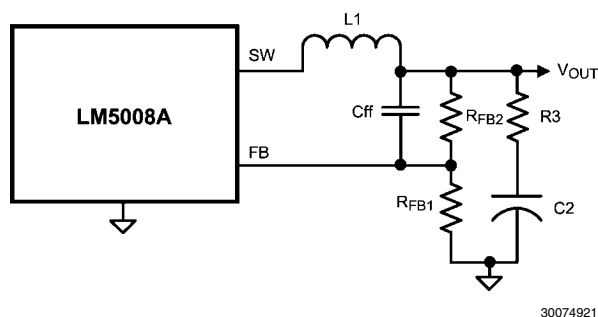

FIGURE 7. Reduced Ripple Configuration
a) Reduced ripple configuration: In Figure 7, C_{ff} is added across R_{FB2} to AC-couple the ripple at V_{OUT} directly to the FB pin. This allows the ripple at V_{OUT} to be reduced to a minimum of 25 mVp-p by reducing R_3 , since the ripple at V_{OUT} is not attenuated by the feedback resistors. The minimum value for C_{ff} is determined from: